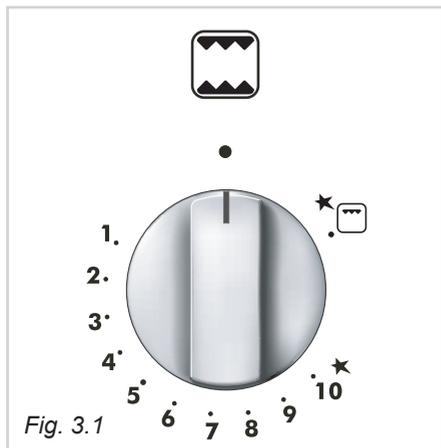

Fig. 3.1
The numbers 1 to 10 printed on the knob (fig. 3.1) indicate the increasing oven temperature value (see table below).
- 2 – Lightly press and turn the thermostat knob anti-clockwise to max position “10^{*}” (fig. 3.1).